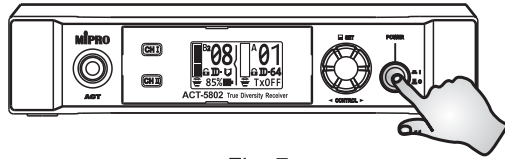

Fig. 7
1. Prior to powering on the receiver, ensure all transmitters are turned off and the mixer's volume control is set to a minimized setting. Press Power button ④ to power on. OLED screen ② will be lit, Fig. 7.